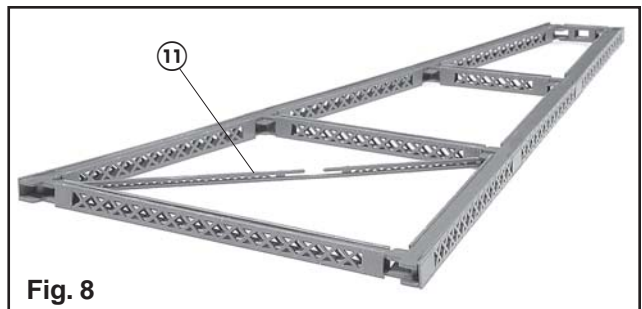

Fig. 8
See fig. 8. Position the bent X-brace with the notch facing up and its lattice straps toward the top of the bent. Align the X-brace at each end with the rows of rivets on the bent gusset plates. Position the second bent X-brace, part (11), in the opposite two corners in the same way but with the notch down. Adjust the position of the two X-braces so their slots are centered on one another. Turn the bent assembly over and adjust the position of each X-brace on the opposite side gusset plates. Once both bent X-braces are positioned correctly, without bow, cement the four ends to the gusset plates on both sides of the bent assembly. Repeat for the 2nd and 1st story X-braces.